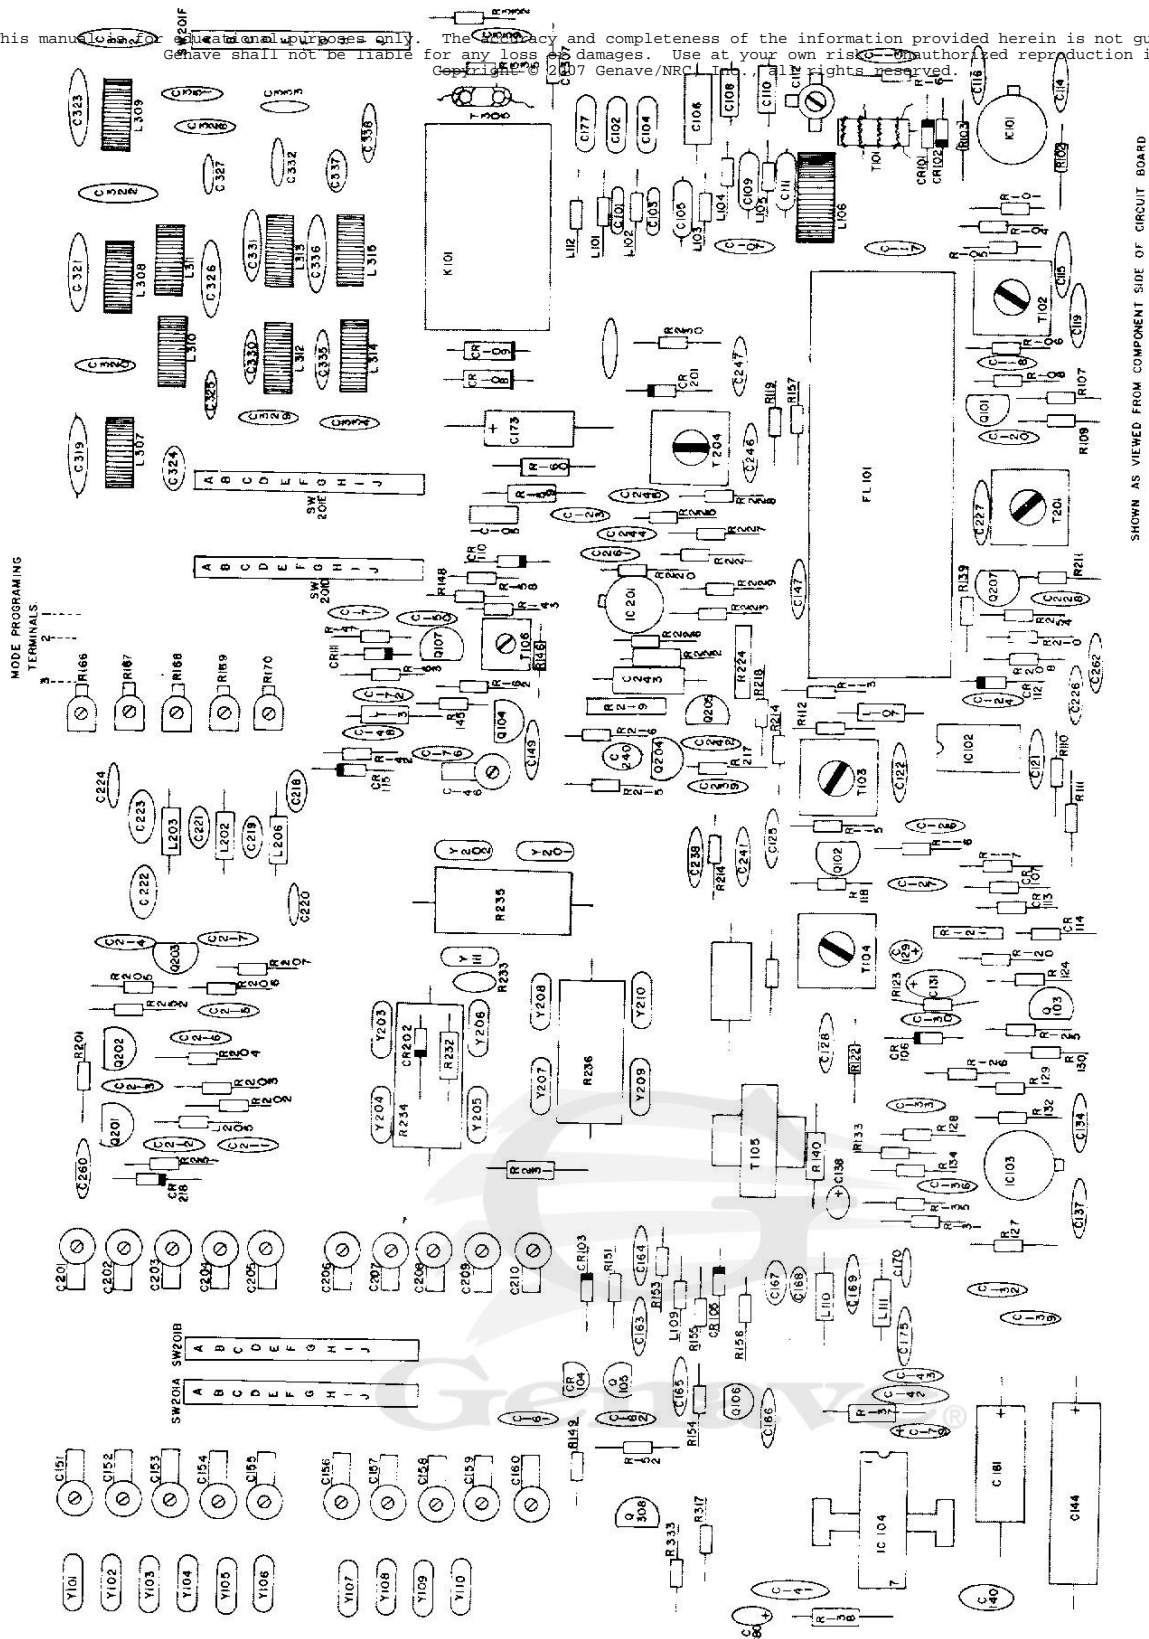

Figure 4-4. Main Board Component Layout
6. Insert receiver crystal(s) into appropriate socket(s). Crystal sockets are located on main PC board, approximately in line with the microphone connector - socket "A" is nearest the chassis left sidewall, while socket "J" is adjacent to the "Clarify" control. Refer to Figure 4-4.
1. Locate low-pass filters at left-rear corner of unit between switch wafers SW201E and SW201F (see Figures 4-4 and 4-5).
2. For channels A, B, H, I, or J, if A3J mode is desired, run a jumper wire on top side of main PC board from mode Programming Terminal #1 to Programming Terminal #2 for appropriate channel. See Figure 4-4. If mode A3A or A3H is desired, run a jumper wire on top side of main PC board from Mode Programming Terminal #1 to Programming Terminal #3 for appropriate channel(s). Program each channel as necessary.
2. Adjust trimmer C146 (Figure 4-4) to produce a frequency counter reading of 10.7000 MHz.
3. Set channel-selector switch to channel to be adjusted. Note that crystal for channel A is nearest the chassis left sidewall, while crystal J is adjacent to the "Clarify" control (Figure 4-4).
3. Locate AGC potentiometer R121 (Figure 4-4); adjust R121 for 4.00 VDC  $\pm 0.1$  V.
7. With DC VTVM still connected to AGC test point TP3, adjust T102, T103, and T104 for maximum AGC voltage. See Figure 4-4 for transformer location. Reduce generator output while aligning receiver to avoid overloading receiver circuits.
3. Adjust C112 (see Figure 4-4) for a null either in AC VTVM reading (audio), or in DC VTVM reading (AGC).
5. Refer to Figure 4-4 for location of transmitter oscillator trimmer capacitors. Channel A trimmer is next to chassis left sidewall, etc.
4. Key transmitter, and rotate "Carrier Balance" potentiometer R224 (Figure 4-4) until an output indication is obtained on oscilloscope.
5. Adjust balanced modulator transformer T204 (Figure 4-4) for maximum output indication on oscilloscope.
8. Key transmitter, and whistle into microphone or use audio substitute; adjust T201 (Figure 4-4) for maximum output indication on oscilloscope.